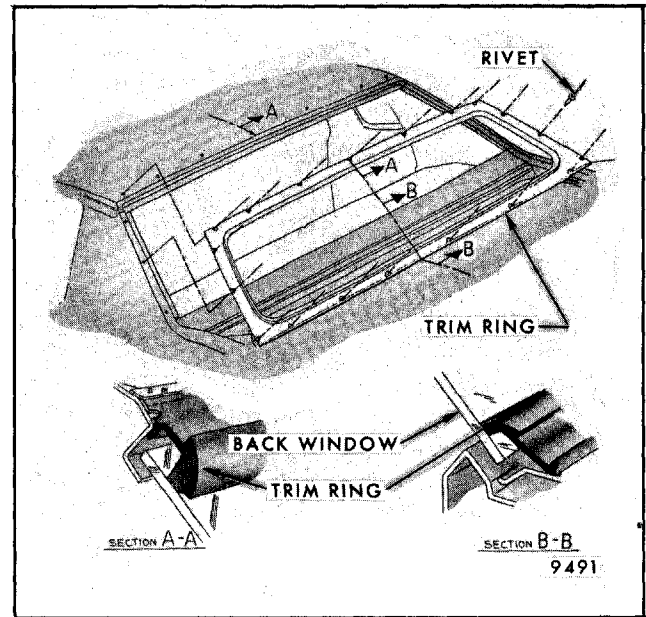

Fig. 11-18 - Back Window Trim Ring Assembly
4. To reinstall the trim ring, position ring in location and install rivets at all designated locations (Fig. 11-18).